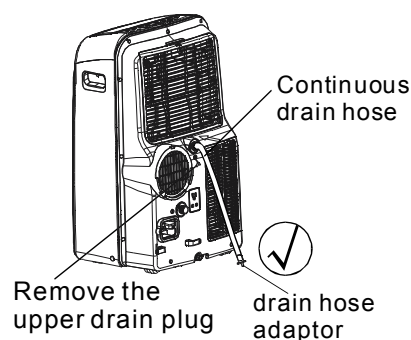

Fig. 20a
- During dehumidifying modes, remove the upper drain plug from the back of the unit, install the drain connector(5/8" universal female mender) with 3/4" hose(locally purchased). For the models without drain connector, just attach the drain hose to the hole. Place the open end of the hose adaptor directly over the drain area in your basement floor. Please refer to Fig.20a.
NOTE: Make sure the hose is secure so there are no leaks. Direct the hose toward the drain, making sure that there are no kinks that will stop the water flowing. Place the end of the hose into the drain and make sure the end of the hose is down to let the water flow smoothly.(See Fig.20a,20b,21a). Do never let it up.(See Fig.21b).